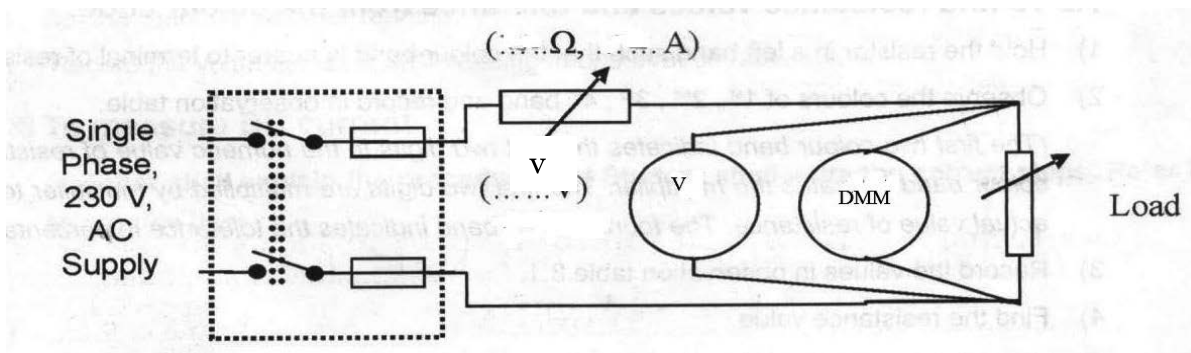

Figure 3: Measurement of AC voltage
1. Connect a circuit as shown in Figure 3 for measurement of AC voltage.